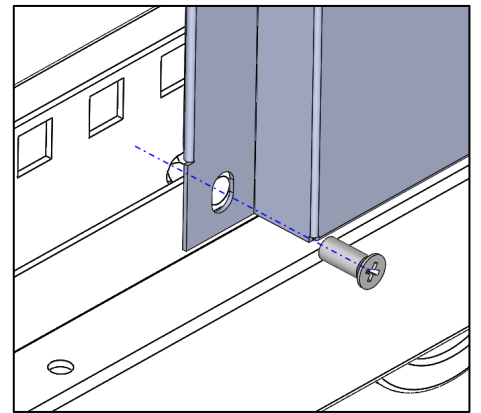

Figure 25
Use M5x12 YHB Screws (A) to fix up narrow side panel as shown on the Figure 25